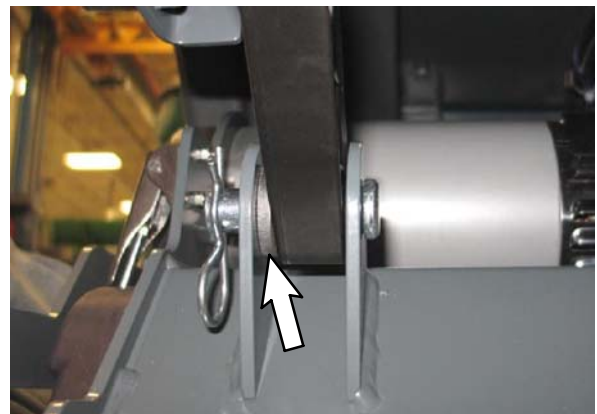

FIG. 11
- Reconnect the scrub head lift arms to the machine. Install a spacer (1) when reconnecting each scrub head lift arm to the scrub head. Refer to Fig. 11.